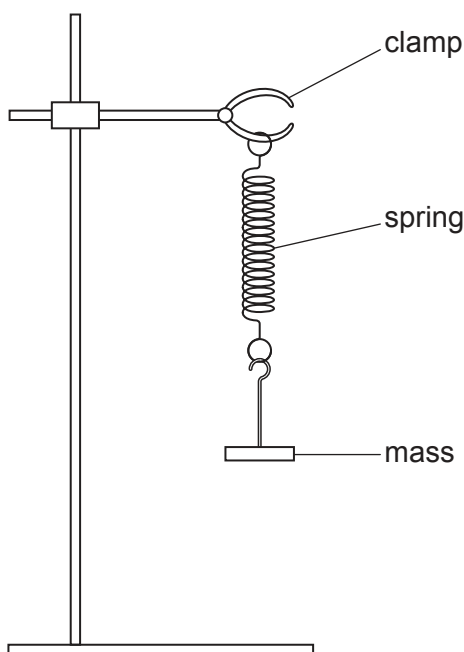

Fig. 5.1
- (b)** • Attach the spring to the clamp as shown in Fig. 5.1.